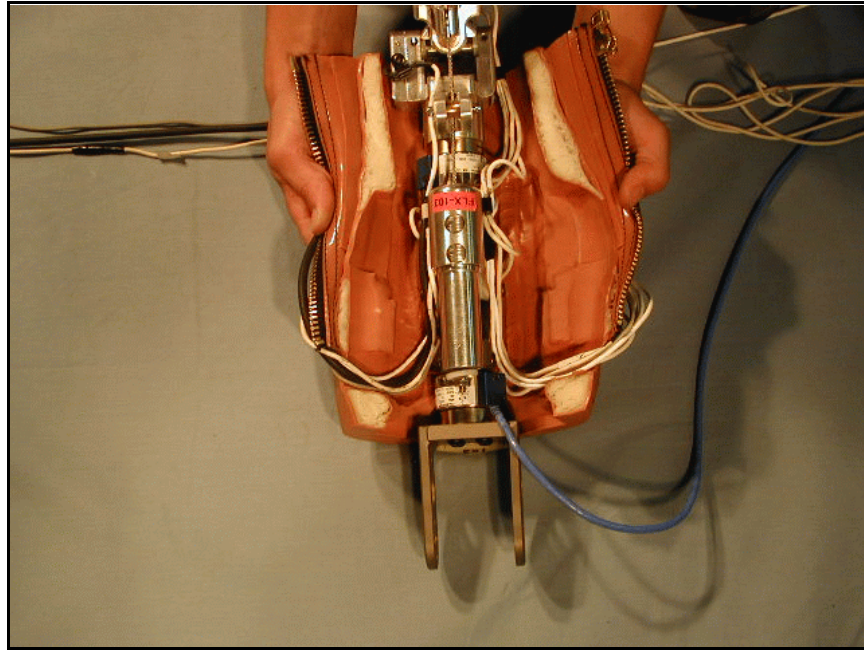

Figure 3.37 - Wire Routing in Tibia Skin
34. Refer to Section 4.2 for specific wire routing and strain relief. Route the wires from the instruments into the two wire channels provided within the tibia skin as shown in **Figure 3.37**. The wires are designed to exit the skin at the top - behind the knee assembly.